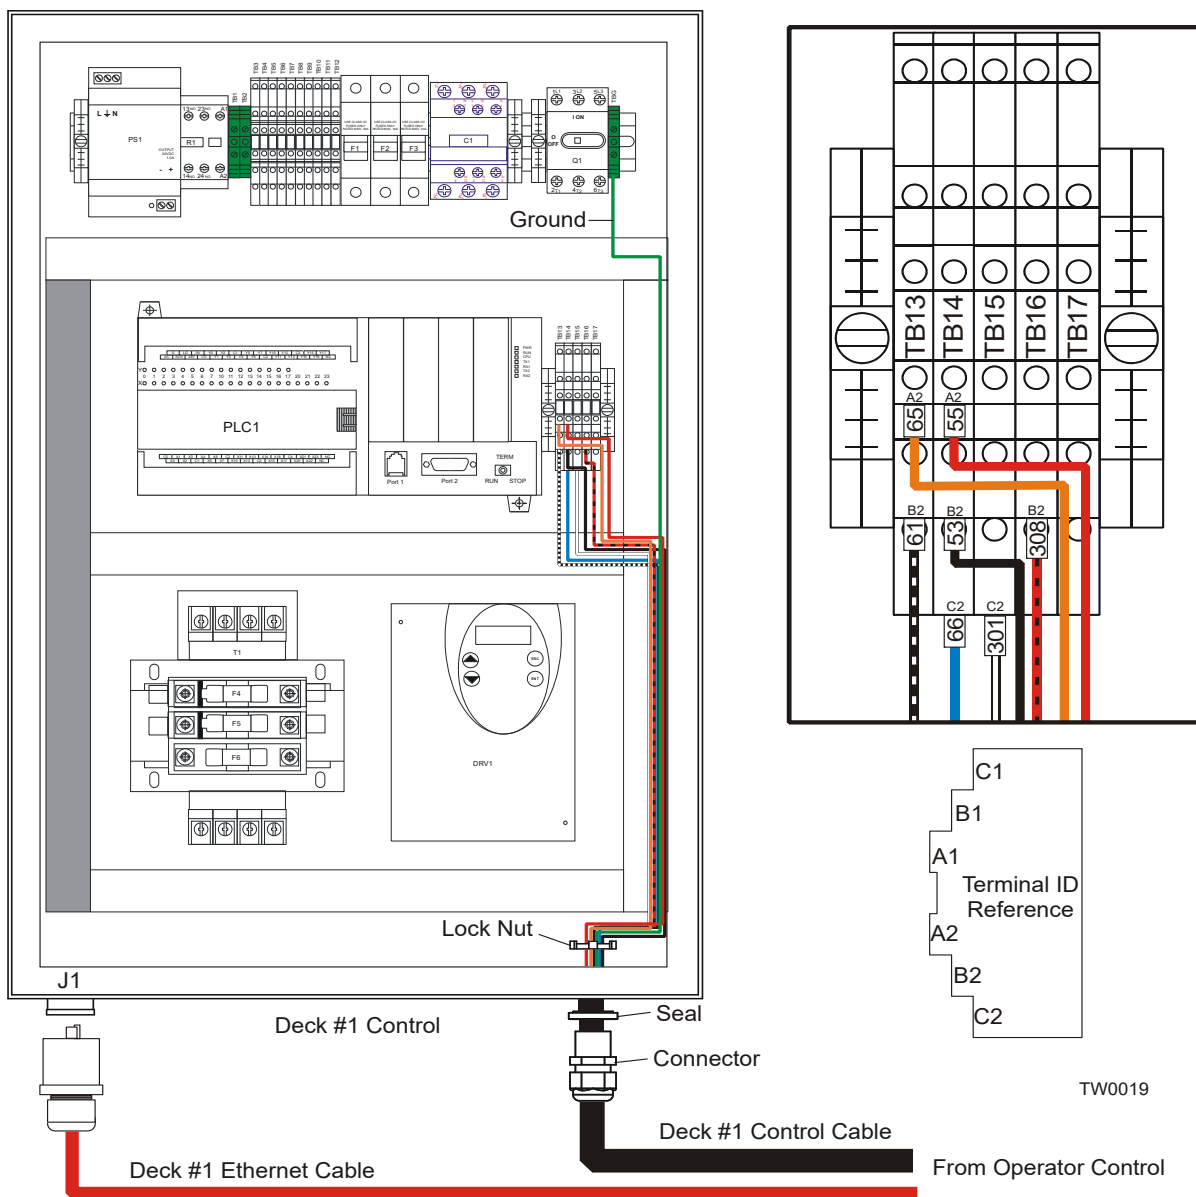

FIG. 2-26
**See Figure 2-26.** Plug the ethernet cable into connector J1 in the bottom of the control box.